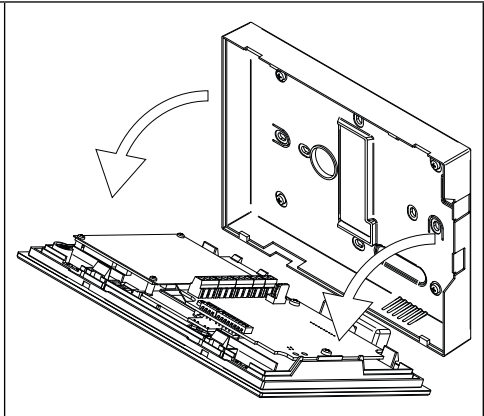

Fig. 3
1. To install the videophone, it is necessary to remove the back cover. Apply pressure to the two clips indicated by the grey arrows (Fig. 1) using fingers (Fig. 2) while lightly pulling the upper part in the direction of the white arrows (Fig. 3).